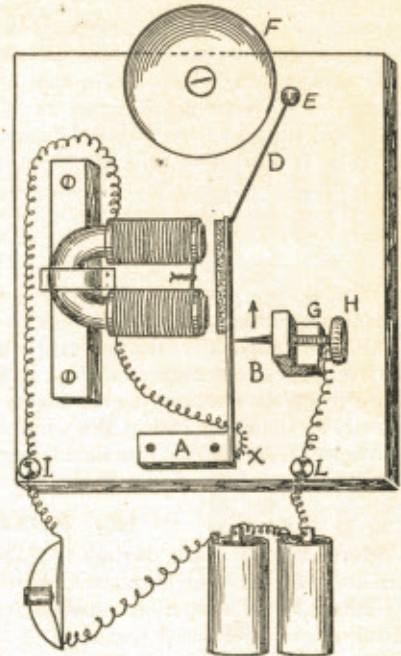

Fig. 46.
Attach the yoke to a small board, as in fig. 46. A springy piece of steel (B) long enough to reach over both ends of the electro magnet is fastened to another block of wood (A). To one end of the steel (B) attach a small bar of iron as an armature. Extend the spring by means of wire (D) and fasten a knob of iron or brass (E) on the end of it. The bell (F) is held up in place by means of a screw. Thrust a thumb screw (H) through a small wooden support (G) so that its sharpened point just touches the spring (B). From the terminal (I) the wire runs through both solenoids, the inner ends of the wires being connected, to the terminal (K). Another wire passes from the terminal (L) to the thumb screw (H). Now, connect the two terminals to your battery and insert a push button between one wire.